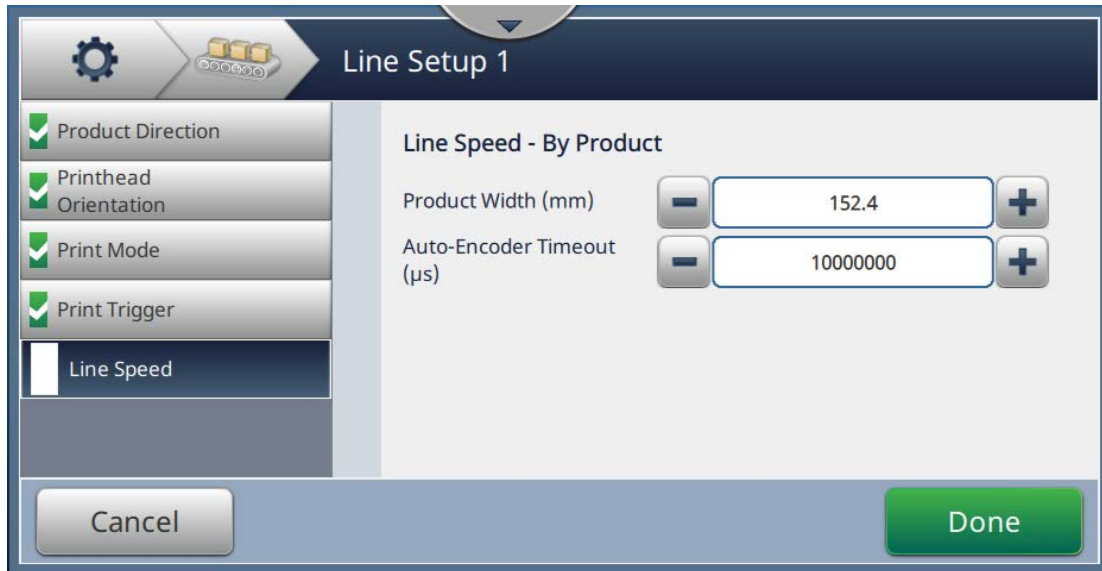

Figure 6-38: Line Speed - Measured by Product Size/Time Settings
2. Change the required parameters on the Settings screen as shown in Figure 6-38.